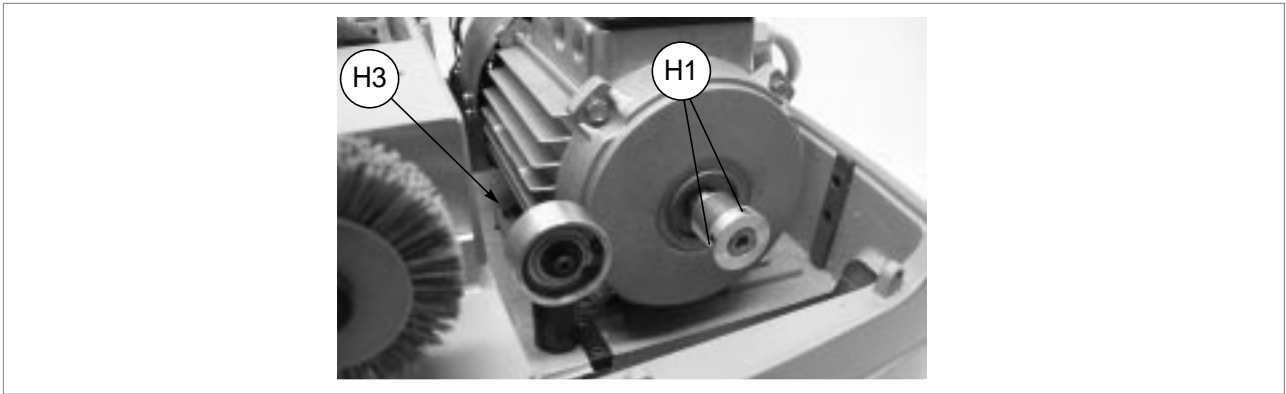

Fig. 38
- 13) Loosen the 2 grub screws (H1) on the motor pulley (fig. 38). Remove the pulley and fit to the new motor, secure by tightening the 2 grub screws (H1).
- 14) Remove the old motor from its seat, together with the 4 screws (H3) (fig. 38, page 23).